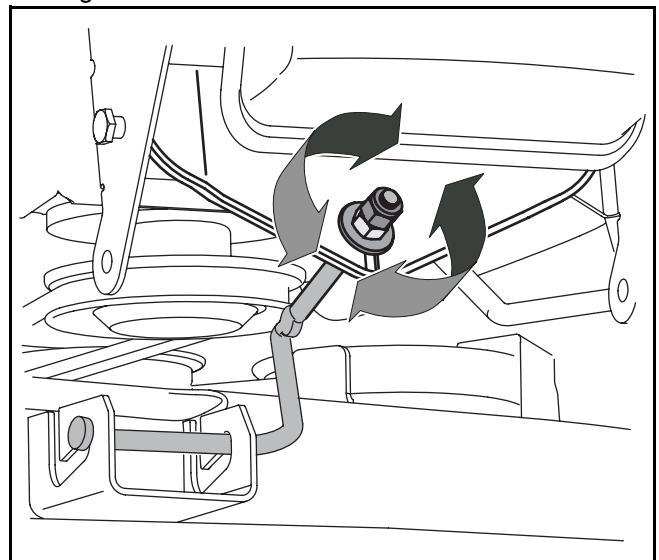

Figure 12
5. From the front of the tractor, loosen the outermost hex lock nut on the end of the deck hanger rod. See Figure 12.
6. Tighten the inner hex nut front against the front hanger bracket to raise the front of the deck; loosen the hex nut to lower the front of the deck. See Figure 12.